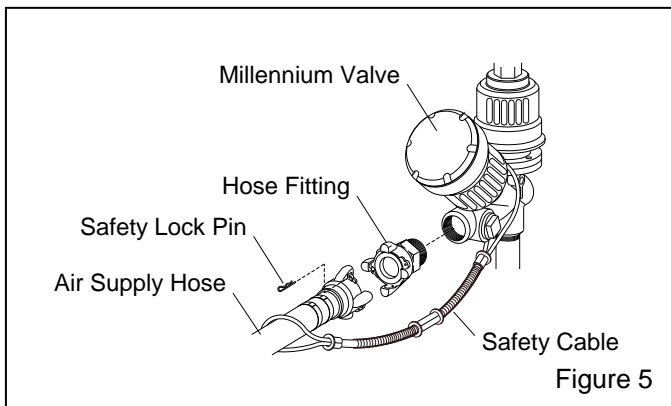

Figure 5
2.4.1 Apply thread sealant to the male pipe threads of an air fitting that is compatible with the air supply hose fitting, as noted in Section 2.4.2, and install it onto the 1-1/2 NPT optional air filter or the Millennium inlet valve, as shown in Figure 5. **Note that the style of connection shown in Figure 5 is for reference only.**